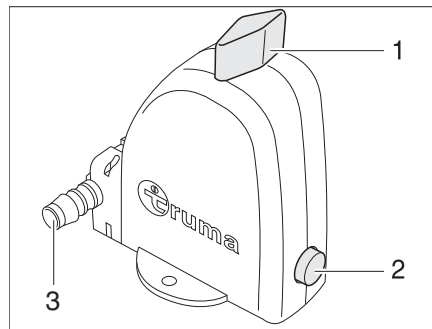

Fig. 257 Safety/drainage valve of the boiler - Operation position
The boiler is equipped with a safety/drainage valve (Fig. 257). The safety/drainage valve prevents water in the boiler from freezing, when there is frost and the heater is not switched on.
- ▷ The drainage neck (Fig. 257,3) of the safety/drainage valve has to be free of dirt (e.g. leaves, ice) at all times.
- Turn the knob (Fig. 257,1) 90° lengthwise to the safety/drainage valve. The pushbutton (Fig. 257,2) jumps out. The boiler is drained to the outside by the drainage neck (Fig. 257,3) of the safety/drainage valve.
- Turn the knob (Fig. 257,1) 90° crosswise to the safety/drainage valve.
- Push in the pushbutton (Fig. 257,2).